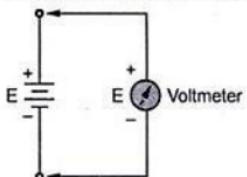

Fig. 1.17 E.M.F of a cell
1. E.M.F. of a cell : The voltage of a cell in an open circuit condition, measured by a very high resistance voltmeter is called e.m.f. of a cell. This is denoted as E , measured in volts. This is shown in the Fig. 1.17.